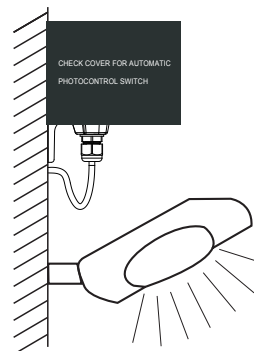

figure. 5
1. Use opaque to cover the sense-light window when testing at the daytime (figure. 5).